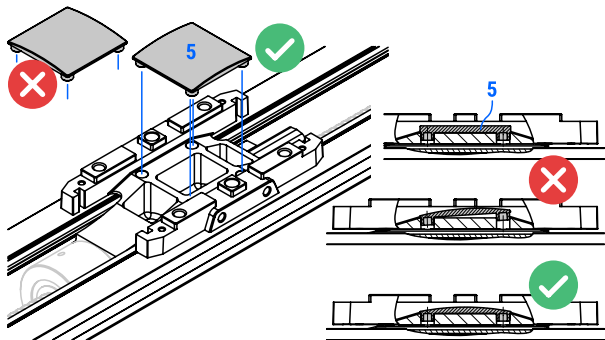

Figure 29: Protection strip replacement process: step 6.
STEP 6: Place the new protection strip inner slider **5** properly into the prepared mounting holes on the carriage, as it is presented in the Figure 29.